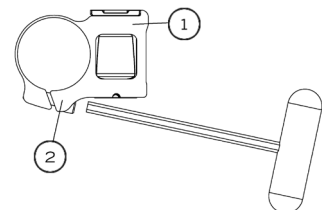

Fig. 16
- Install armrest receiver (1) (Fig. 16) on the upper tube of the frame at a distance of 160mm (6 $\frac{1}{4}$ ") from the rear tube of the frame.
- Slightly tighten screws (2) to allow the clamp to rotate.
- Insert armrest or sideguard into receiver (1).
- Rotate receiver (1) until the sideguard is perpendicular to the seat.
- Tighten screws (2) firmly.